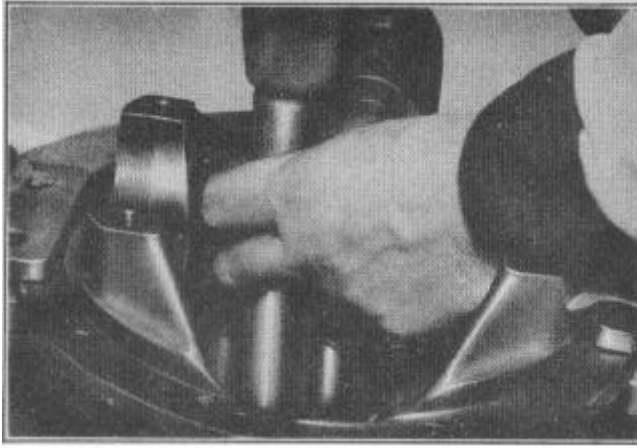
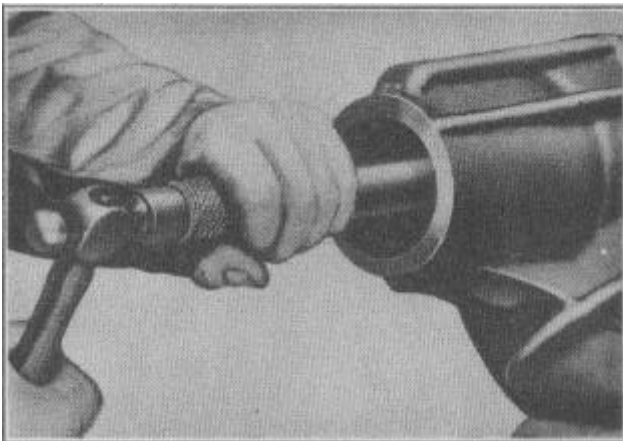

FIGURE 21
FIGURE 22
6. Remove front and rear drive pinion bearing cups from differential carrier, using remover J-2644 for front cup, Figure 21, and J-2645 for rear cup with handle J-8725, Figure 22.